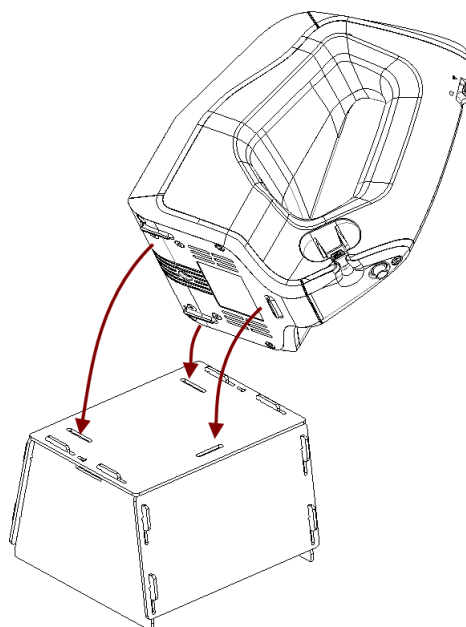

Figure 137: Placing Artec Spider on the stand
3. Place the scanner on the scanner stand, making sure that you insert the three scanner stems in the three slots of the stand cover (see Figure 137).